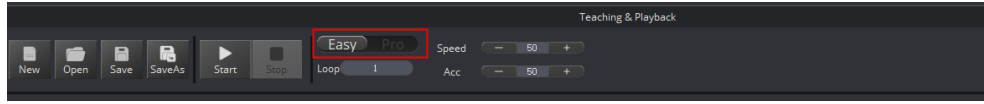

Figure 5.203 Switch advanced function
Step 2 Click  icon on the **Teaching&Playback** page, as shown in Figure 5.203.